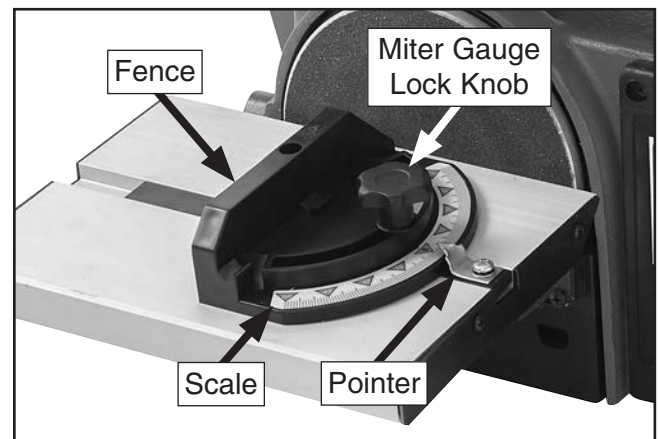

Figure 16. Setting miter gauge angle.
1. Place miter gauge in slot in work table, then loosen miter gauge lock knob shown in **Figure 16**.